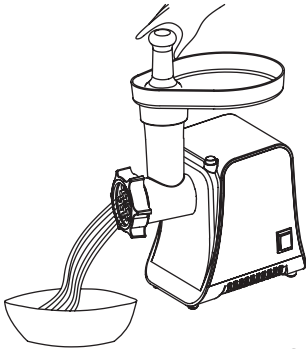

Figure 8.
3. Feed ingredients into the hopper plate. Use the food pusher to push the ingredients into the grinding head (fig. 8).